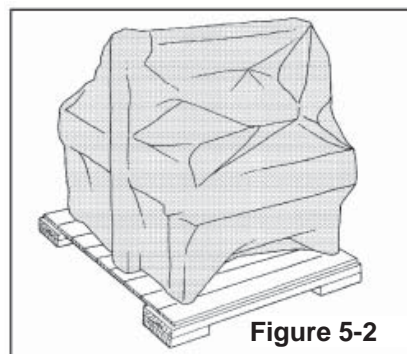

Figure 5-2
5.2 Packaging for Overseas Shipment (Optional - Figure 5-2)